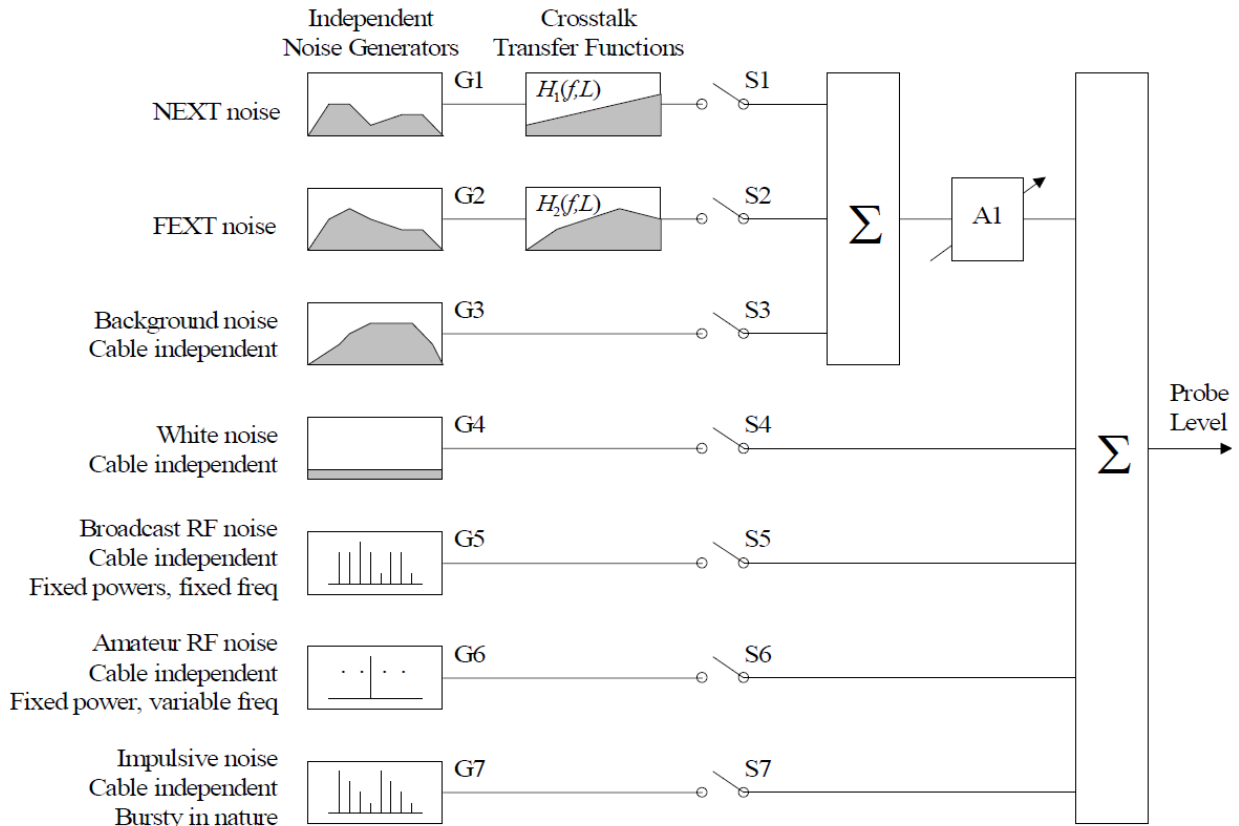

Figure 4-1: ETSI Functional Description of Crosstalk Noise Calculations
Figure 4-1 shows how various ETSI standards compose the crosstalk noise from isolated building blocks, and is used for impairment testing in downstream as well as in upstream direction.
- **Full noise:** is the combined equivalent disturbance from both Alien and Self-disturbers. This is a noise type that is composed of the outputs of generators “G1” and “G2” in Figure 4-1.